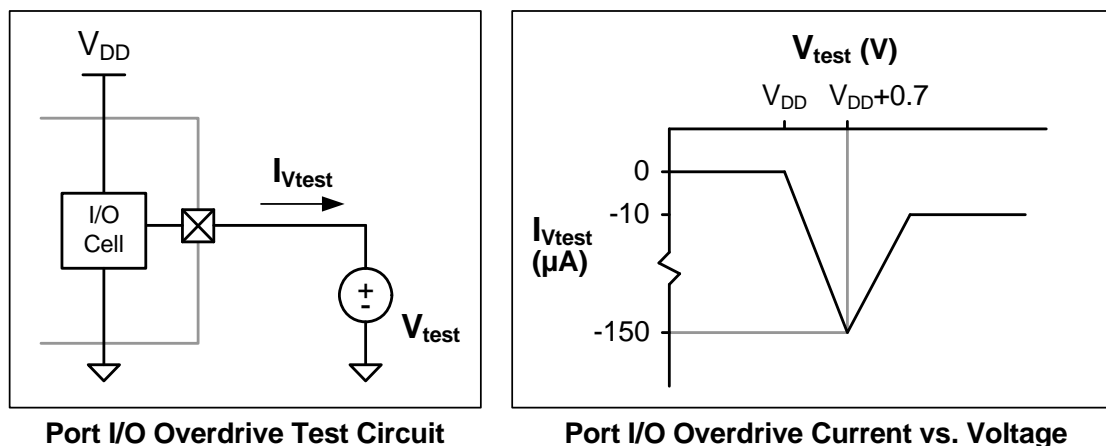

Figure 28.3. Port I/O Overdrive Current
**Important Note:** In a multi-voltage interface, the external pull-up resistor should be sized to allow a current of at least 150  $\mu\text{A}$  to flow into the Port pin when the supply voltage is between (VDD + 0.6V) and (VDD + 1.0V). Once the Port pin voltage increases beyond this range, the current flowing into the Port pin is minimal. Figure 28.3 shows the input current characteristics of port pins driven above VDD. The port pin requires 150  $\mu\text{A}$  peak overdrive current when its voltage reaches approximately (VDD + 0.7 V).